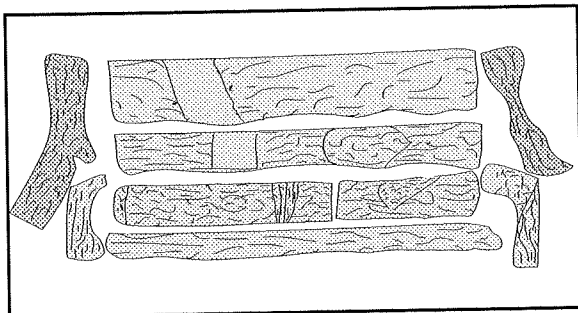

Figure 15
Carefully unpackage the nine (9) logs from the shipping carton and inspect for the condition of the logs. Place the back log in the firebox on the rear support. The notch will provide clearance for the pilot assembly. See Figure 15.
Place the outer left and right log pieces at each bend of the burner. See Figure 15.
The middle log should be placed between the rear and middle burner tube. See Figure 15.